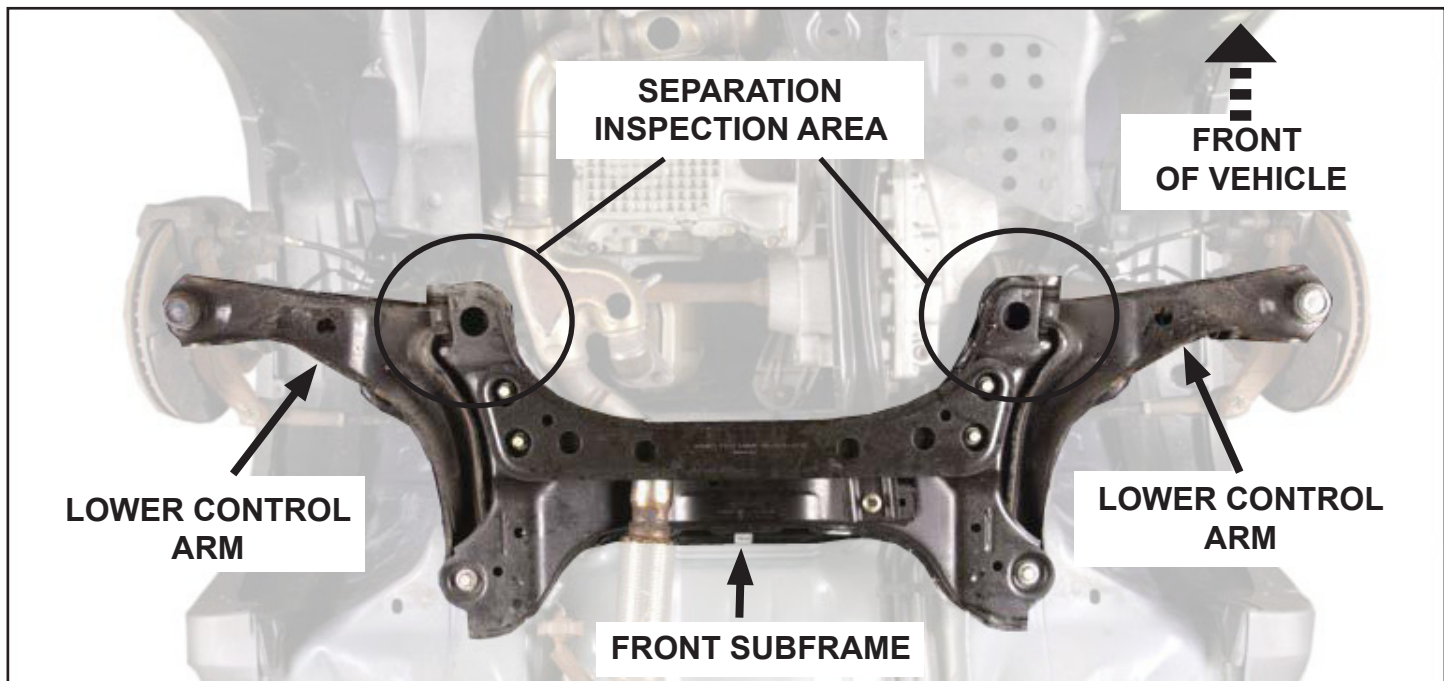

FIGURE 4
2. Inspect the front lower control arms for separation from the front subframe in the areas indicated. See Figure 4.